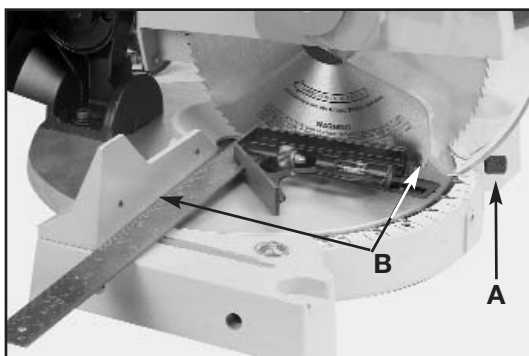

Fig. 18
1. Place the cutting arm in the 90 degree straight cut-off position and tighten the table lock knob (A).
2. Lower the saw blade (Fig. 18) and lock cuttinghead in down position.
3. Place one end of a square (B) Fig. 18 against the fence and the other end against the blade.